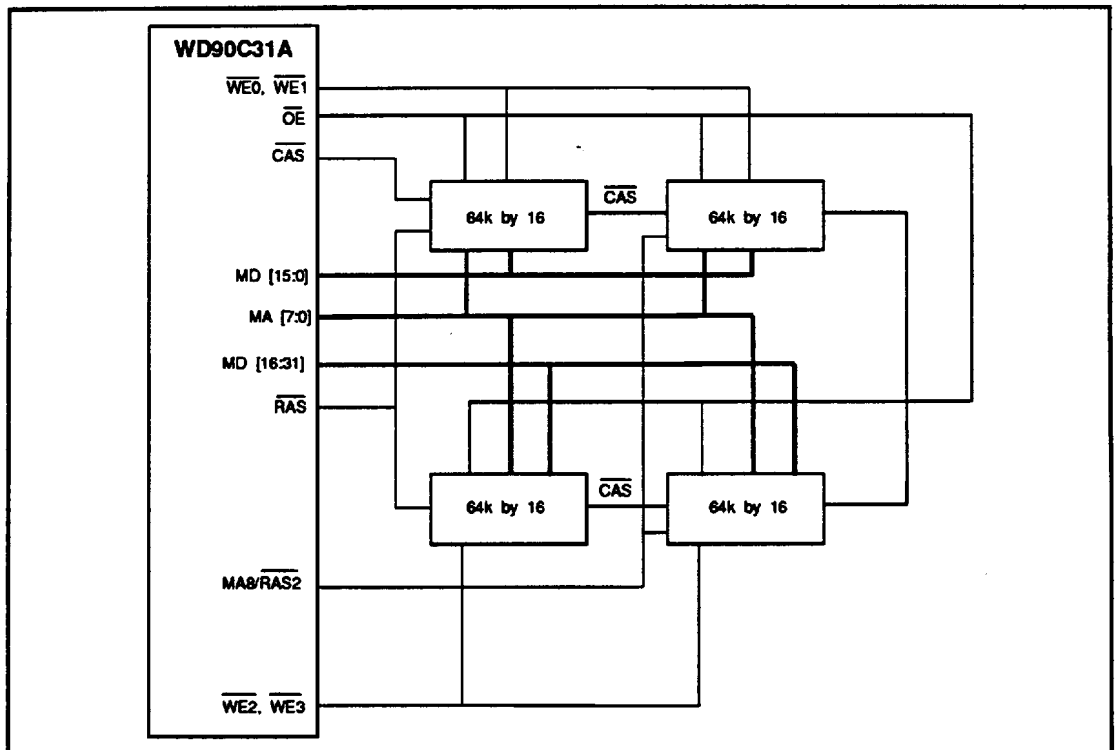

FIGURE 3-8 TWO OR FOUR 64K BY 16 DRAM INTERFACE
- Figure 3-8. Two Or Four 64K by 16 DRAM Interface
The WD90C33 has a flexible DRAM interface. It works with two or four 64K by 16 DRAMs with a 32-bit memory interface. It can also work with four 256 Kbyte by 4 DRAMs or one 256 Kbyte by 16 DRAM with a 16-bit memory interface (see Figures 3-8 and 3-9). Other possible configurations are eight or sixteen 256 Kbyte by 4 DRAMs, and two or four 256 Kbyte by 16 DRAMs with a 32-bit memory interface. In all cases the WD90C33 uses the DRAM fast page mode to optimize performance.
Figure 3-8 shows the interface between two or four 64k by 16 DRAMs and the WD90C33 Controller.